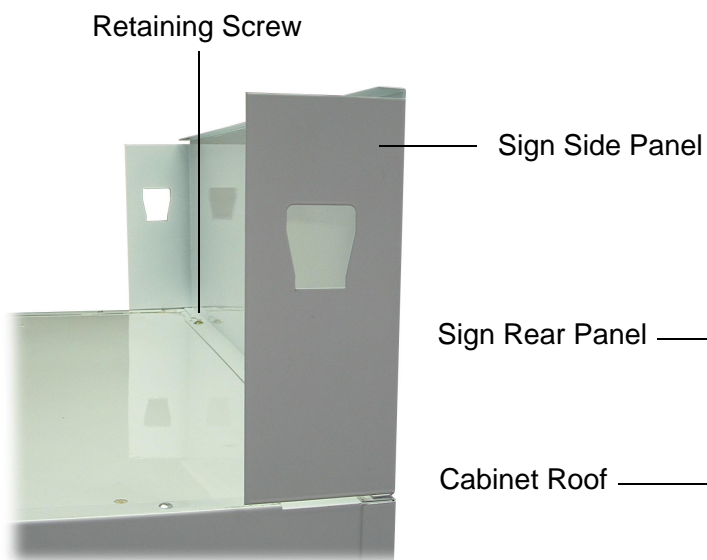

Figure 5: Sign Side Panel
2. Loosen the four retaining screws on the roof of the cabinet and fit each sign side panel over the screws. Slide the sign side panels forward, flush with the front of the cabinet and tighten all four retaining screws (see Figure 5 below).